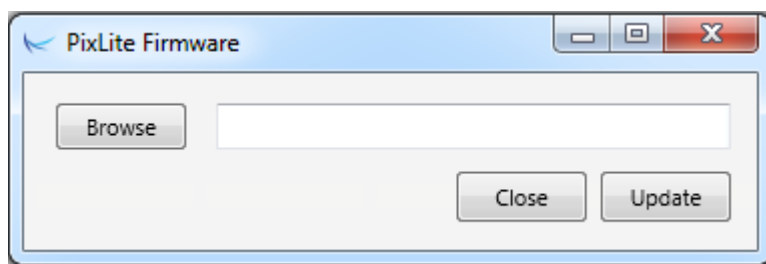

Figure 17
2. A configuration window will appear. Click on the “Misc” tab and then locate the “Upgrade Firmware” button and click on it. A “firmware update” window will appear (as shown in Figure 17). Click “browse” to locate the firmware file you wish to download.
4. Using the Advatek Configuration utility, click search in the main window and you should see the controller appear with “bootloader” in the firmware column. Double clicking on it will bring up the file browse window as shown in figure 17.